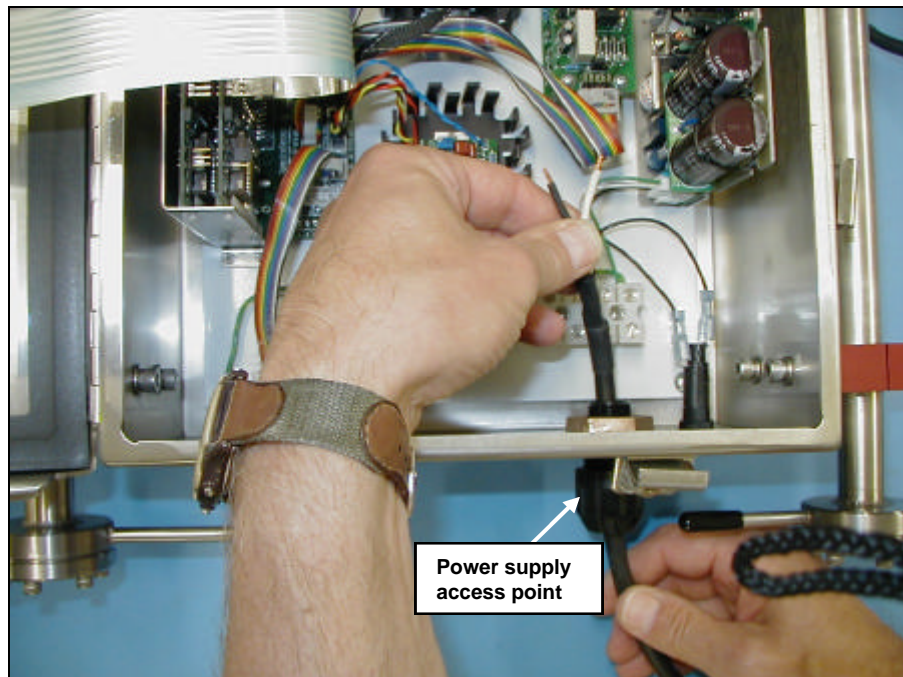

Figure 3 Thread power supply through the right side access point at the bottom of the enclosure.
2. Thread a 120VAC power cord through the strain relief fitting supplied with the unit. See figure 3. The power cord must be the three wire grounding type. The power cable should have at least 16 gauge conductors. The strain relief fitting is designed to accommodate cords with outside diameters from 0.31" to 0.56".
6. Attach the Neutral and Hot wires to the power terminal strip as shown in figure 3.